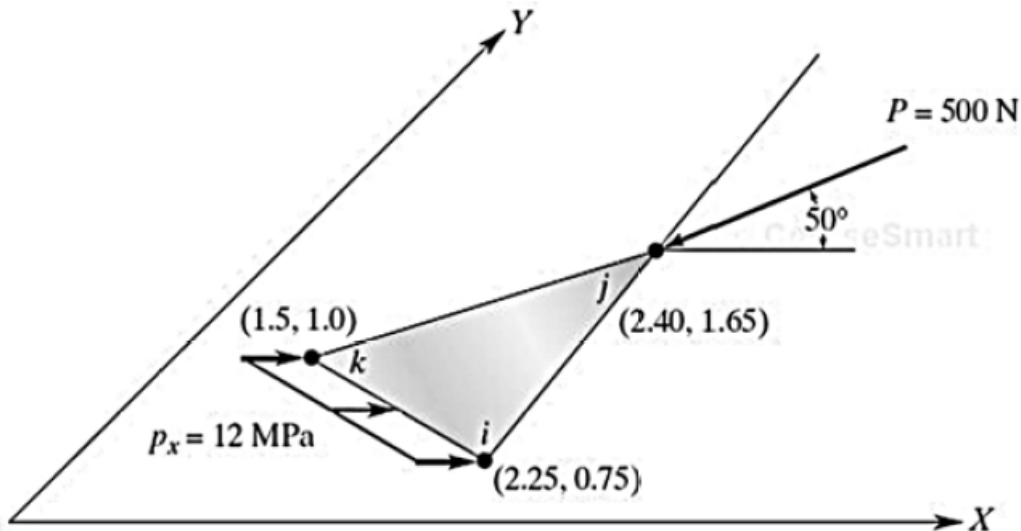

Figure P8.2
2. A two-dimensional triangular plane stress element made of steel, with modulus of elasticity $E = 200$ GPa and Poisson's ratio $\nu = 0.32$, is shown in **Figure P8.2**. The element is 3 mm thick, and the coordinates of nodes i , j and k are given in centimeters in Figure. Determine the stiffness and load matrices under the given conditions.